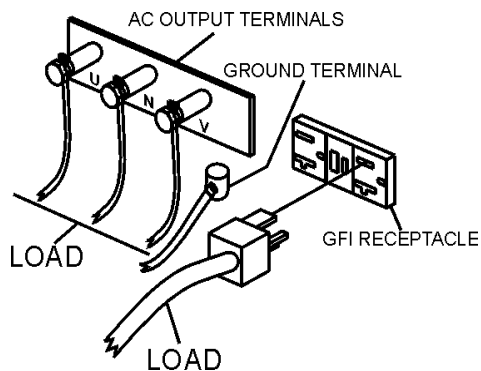

Figure 20. UNV Terminal Lugs (Load)
2. Once it is determined if commercial power is required, connect the load to the UNV terminals as shown in Figure 20. These terminals can be found on the output terminal panel, see page 36, Figure 11. To gain access to the output terminals lift the UNV cover. Make sure to tighten terminal nuts securely to prevent load wires from slipping out.